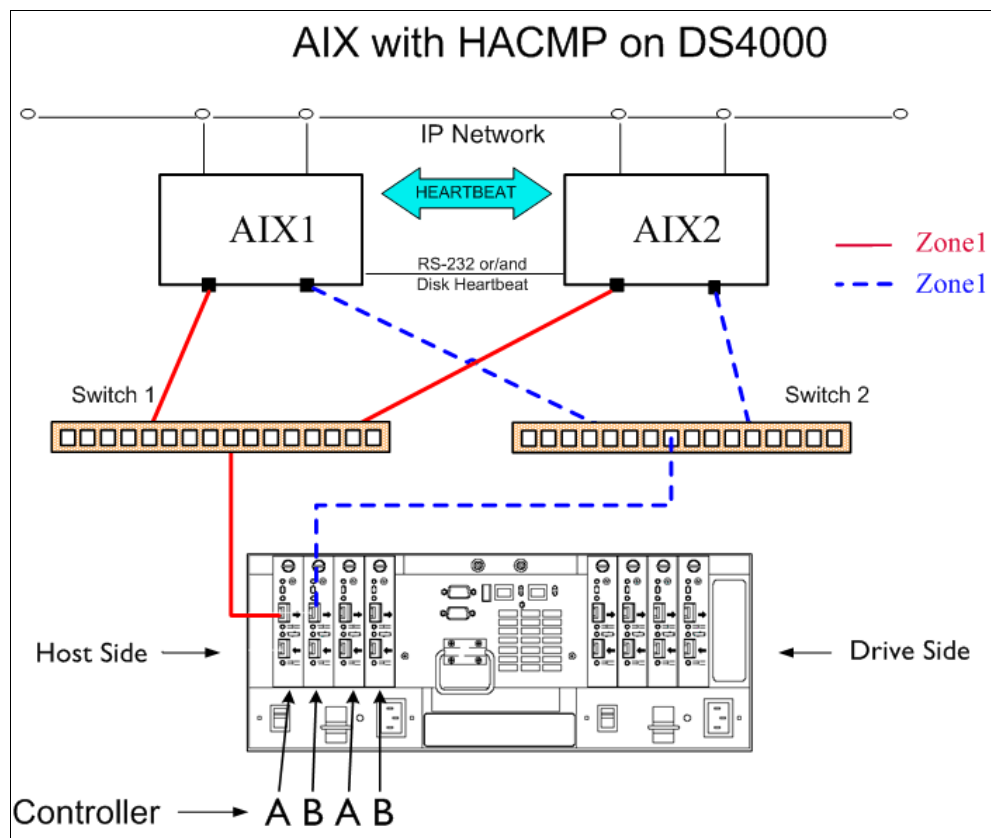

Figure 11-24 HACMP cluster and DS4000
The primary goal of an HACMP environment is to eliminate single points of failure. Figure 11-24 below contains a diagram of a two-node HACMP cluster (this is not a limitation; you can have more nodes) attached to a DS4000 Storage Server through a fully redundant Storage Area Network. This type of configuration eliminates a Fibre Channel (FC) adapter, switch, or cable from being a single point of failure (HACMP itself protects against a node failure).